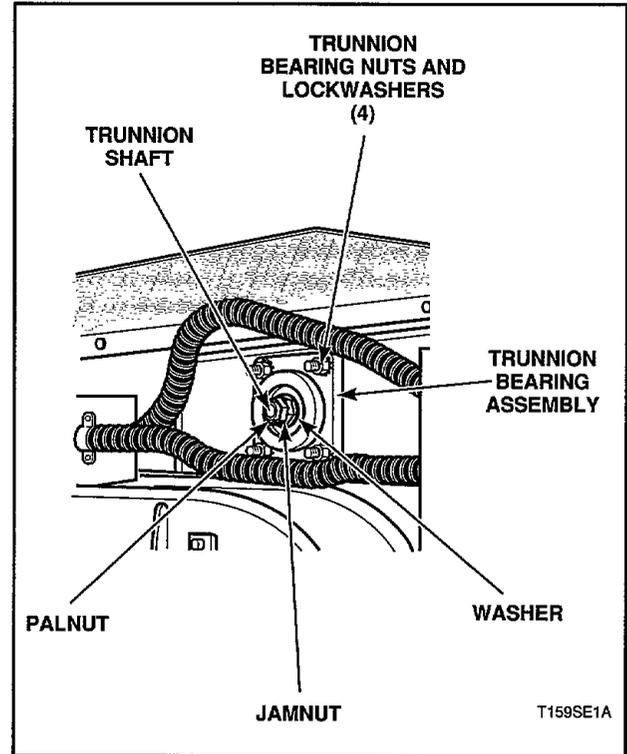

Figure 14
- Remove palnut, jamnut and washer from end of trunnion shaft located at rear of tumbler, *Figure 14*.
18. TRUNNION BEARING ASSEMBLY (*Figure 14*)